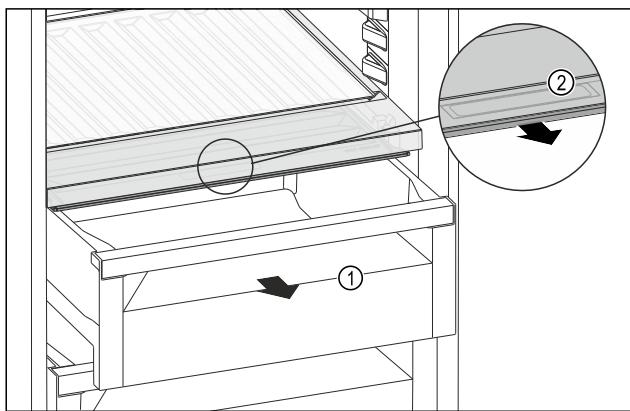

Fig. 109
- ▶ Pull out the drawer Fig. 109 (1).
- ▶ Grasp the recessed grip Fig. 109 (2) on the compartment lid and pull the compartment lid forwards at the same time.